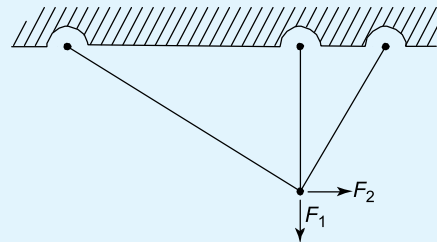

Figure 7.42
- The truss of Figure 7.42 is a: